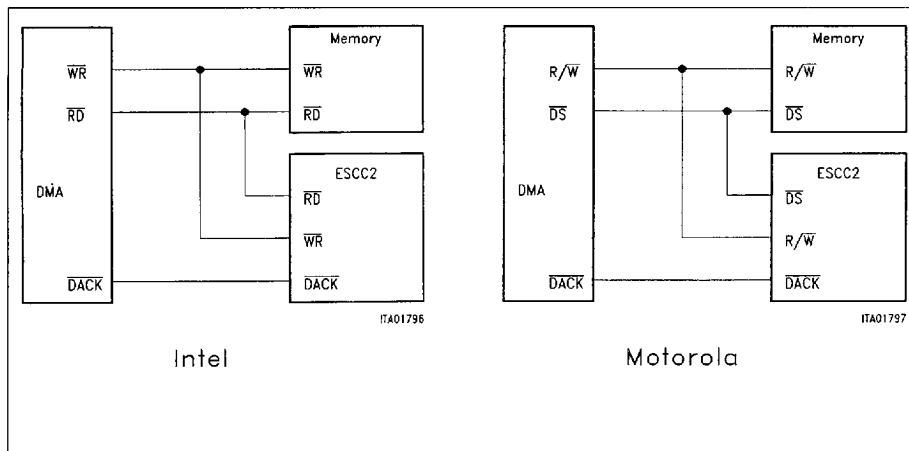

Figure 18
- while DACK is active. This allows easy connection to DMA controllers without dedicated I/O control lines as shown in **figure 18**.